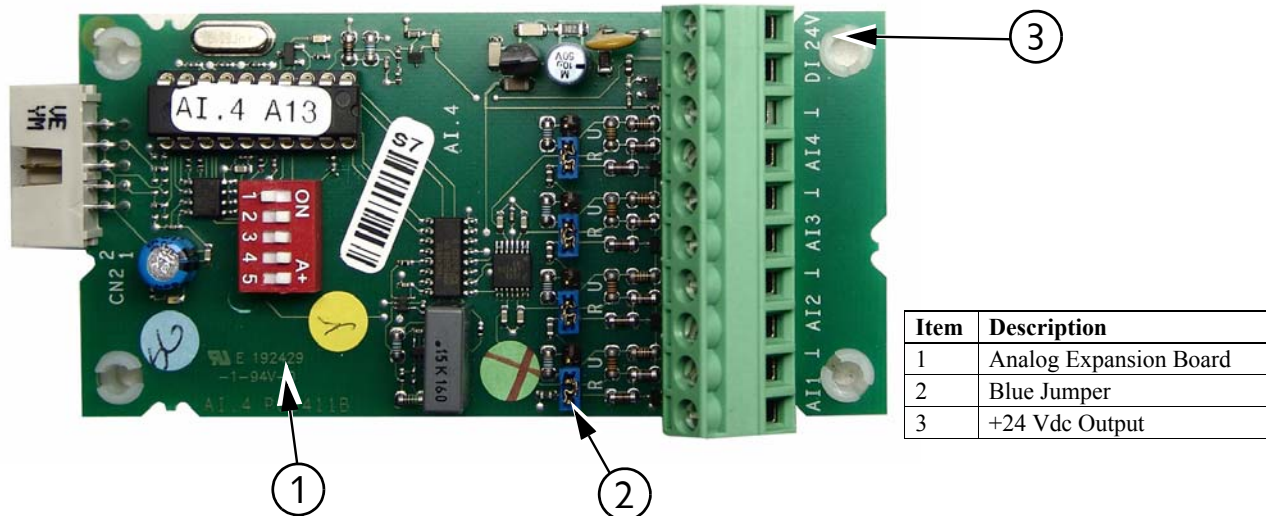

Figure 100. Analog Expansion Board
**Analog Expansion Boards-** Each Analog Expansion Board (AI.4 board) adds 4 additional Analog Inputs to the Chore-Tronics® 2 Control. There is a Blue Jumper located above each Analog Input (**Item 2, Figure 100**). This Blue Jumper needs to be set in the "R" position if a resistive Analog Input (Temperature Sensors and Potentiometers) is connected. The Blue Jumper should be set to "U" if a voltage Analog Input (Static Pressure Sensor, Relative Humidity Sensor) is connected. There is a +24 Vdc output available if needed. When assigning the Input in the Setup-General screen make sure that the number of the Analog Expansion Board is correct along with the number of the Analog Input itself (1-4). It is highly recommended that the name of the Input as well as its assigned location be written on the Input Decal located on the Cover Plate of the Main Box and also recorded in the **Input Assignments Diagram on page 113**.